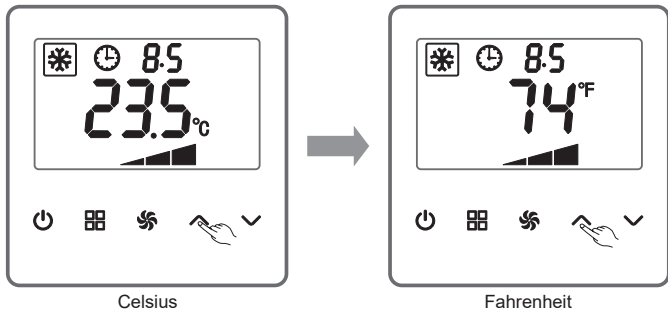

Figure 3
(4) When keeping pressing the UP key or the DOWN key, the temperature varies every 0.5 second.
(5) As shown in Figure 3, the indoor ambient temperature display, if activated, will appear by default after the unit is started. A desired temperature being set appears temporarily. Later, the default temperature will reappear without any operation in 5 seconds.